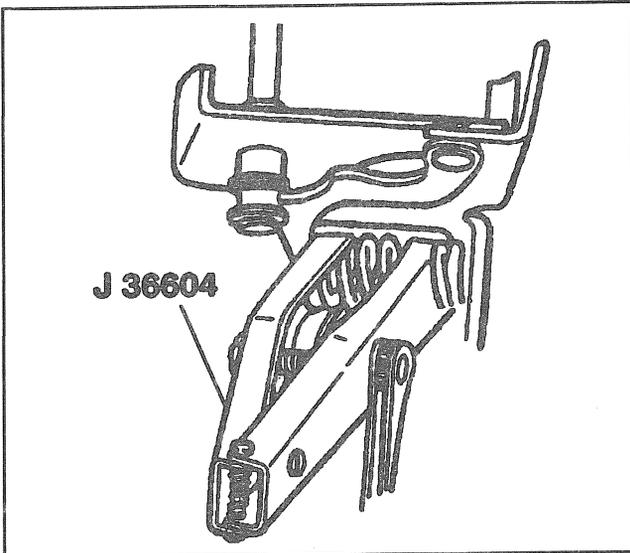

Figure 12—Hinge Spring Removal Tool
↔ Remove or Disconnect (Figures 12 through 14)
- 7. Upper hinge pin retainer (Figure 12).
- 8. Upper hinge pin (Figure 12).
↔ Install or Connect (Figures 12 through 14)
- 3. Upper hinge pin with the pointed end up (Figure 12).
- 4. New hinge pin retainer (Figure 12).